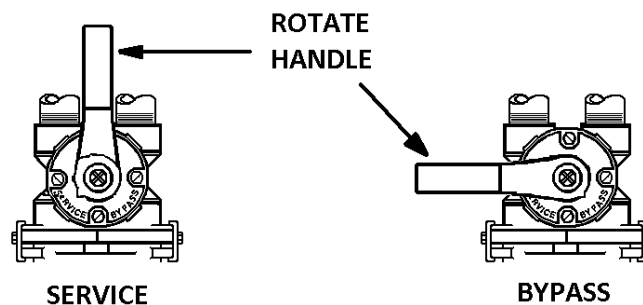

FIGURE 4: Stainless Steel Bypass Valve Operation
- STEP 9:** Place bypass valve in the "Bypass" position (refer to Figure 4 below). Open main supply valve or turn on power to pump on private well systems.
STEP 11: Refer to Figure 4 (page 5) for appropriate bypass valve operation. Rotate bypass lever of stainless steel bypass $\frac{1}{4}$ of the way to Service allowing unit to fill slowly. Filling the mineral tank in this position will force any trapped air to the drain. Fully open bypass valve to the “Service” position.